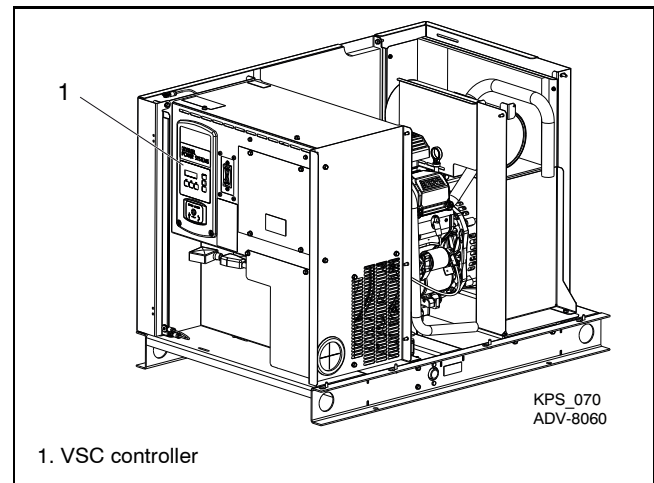

Figure 3-11 Controller Location
1. Using the enclosure locking tool provided with the generator set, open the enclosure roof. See Figure 3-11.